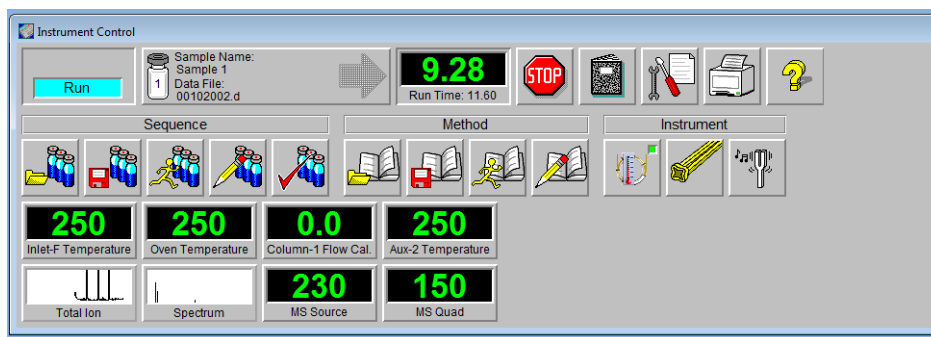

Figure 18 Arranging monitors
- 8 Click and drag each monitor to the desired position. See Figure 18 for one way of arranging the monitors.